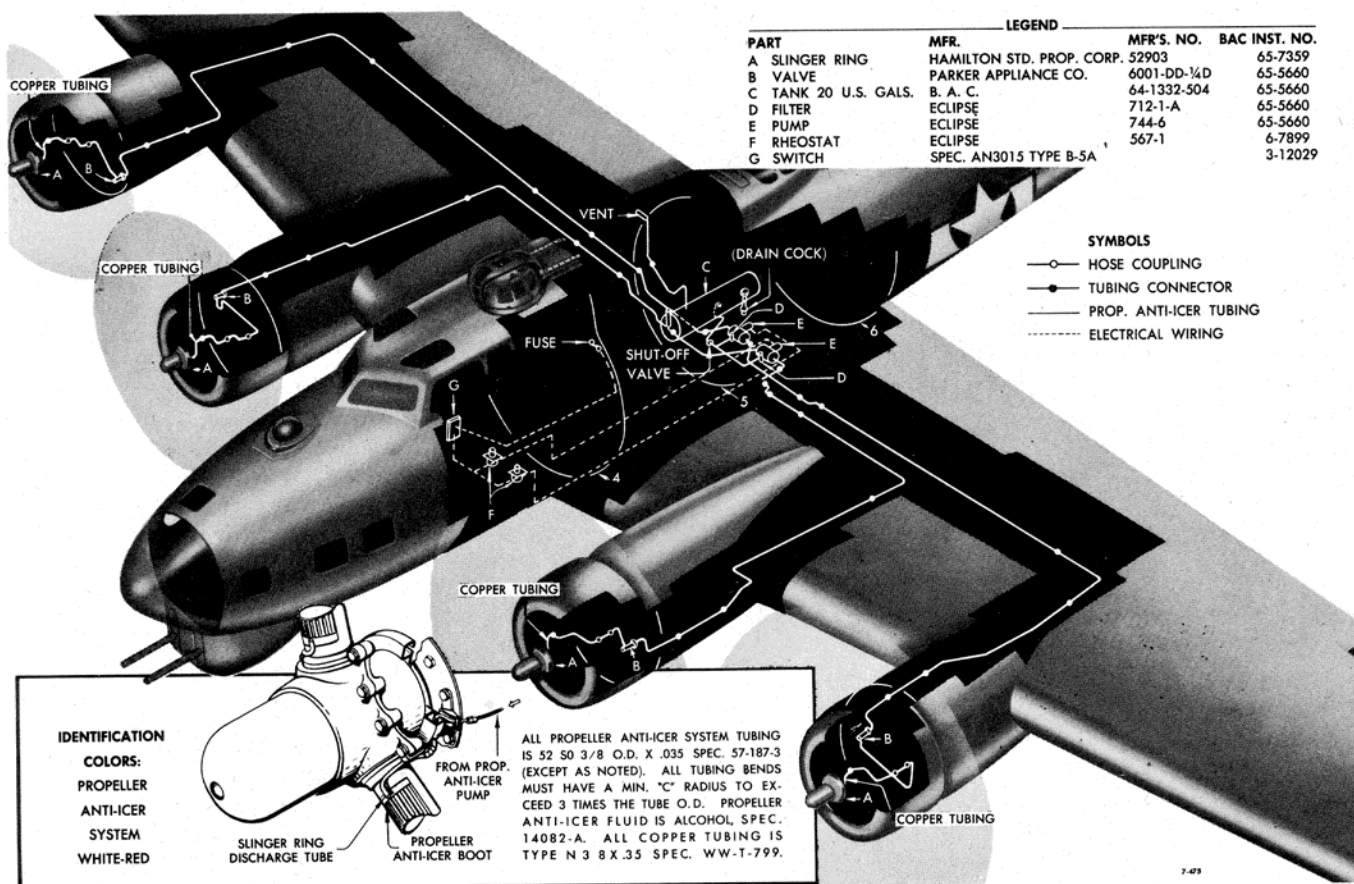

Figure 359—Propeller Anti-Icing Diagram
2. Assemble the tubing and equipment as shown on the propeller anti-icer system diagram (see figure 359). In mounting the pump tighten the bolts evenly in order to prevent distortion of the aluminum bracket. Fill the supply tank with fluid as described in section III. Turn each propeller so that a blade is pointing straight downward, and provide a container at the outlets from the slinger rings. After checking and correcting for leaks as required, adjust the rheostats to control the pump speed for the desired output.